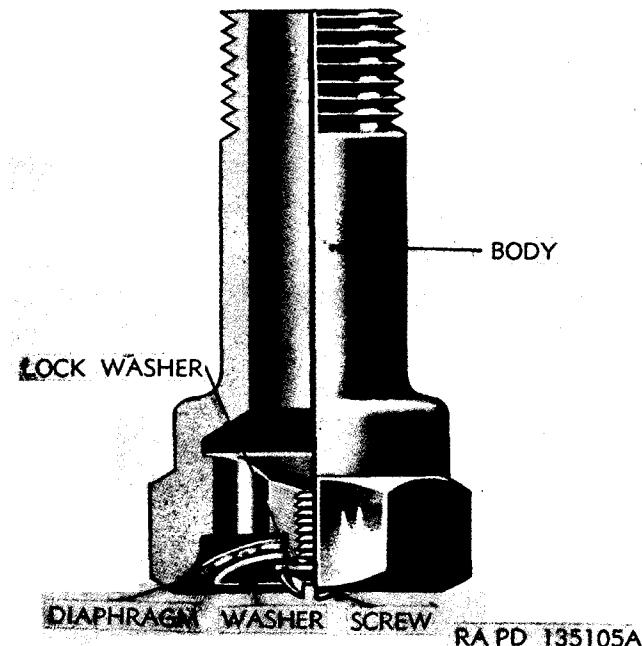

Figure 183. Sectional view—exhaust check valve.
a. *Description* (fig. 183). The exhaust check valve is a rubber diaphragm check valve used in the exhaust port of relay-emergency valves to prevent dirt or water from entering the valve through exhaust port.